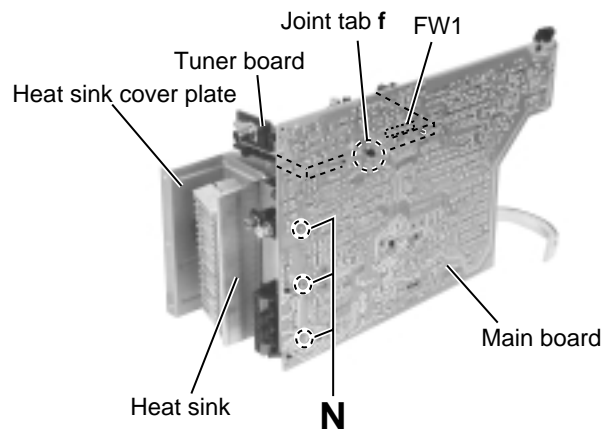

Fig.18
(See Fig. 18 to 20)
1. Release the joint tab **f** of the tuner board holder and the main board, and disconnect connector **FW1** connected to the main board. Remove the tuner board assembly (Refer to Fig.18).